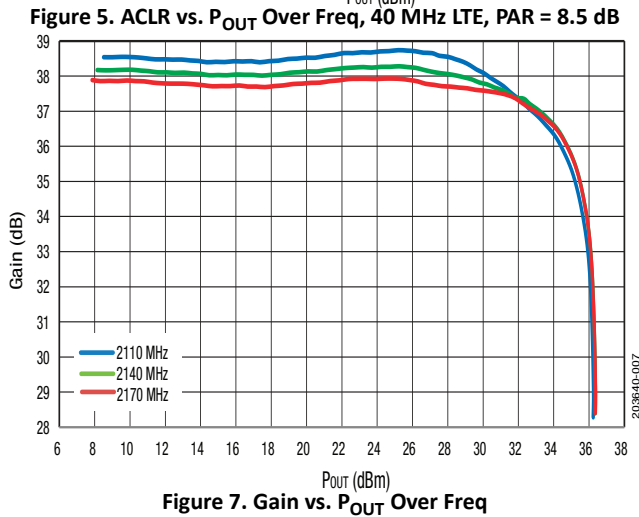

Figure 7. Gain vs. POUT Over Freq
3. Refer to the performance plot in Figure 7.